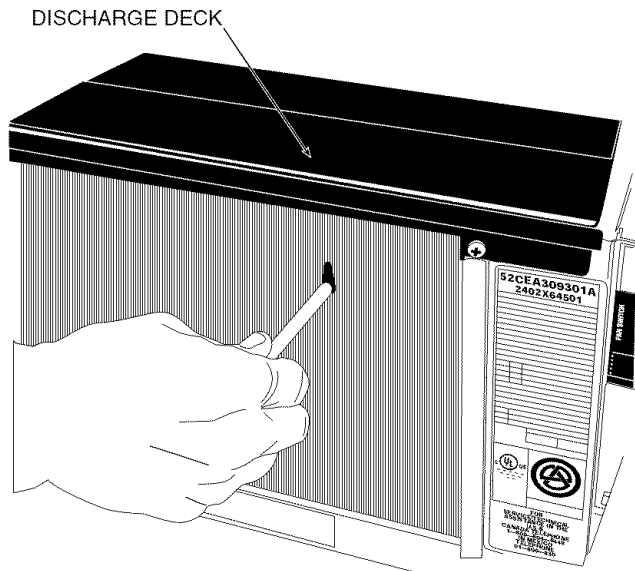

Fig. 8 — Location of Indoor Coil Freeze Thermostat (IFT) on Typical Unit
- a. Use a pen to make an opening in the fins to install freeze sensor (Fig. 8).
- Remove discharge deck. See Fig. 8.